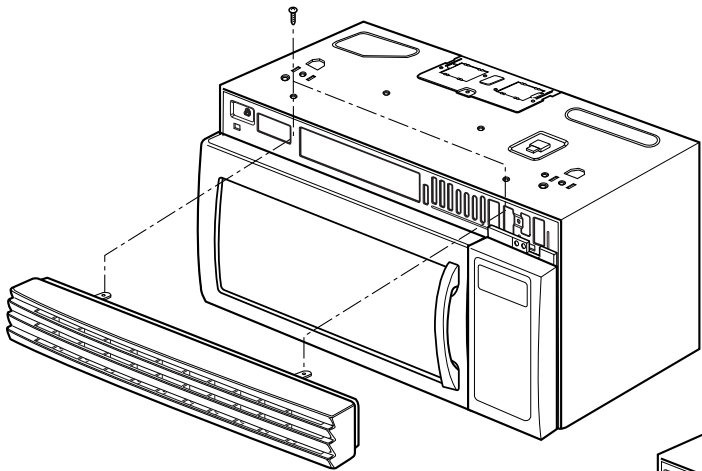

Figure 11
(Figures 11 Through 13b)
- (1) Remove the vent grille by loosening two screws. (Figure 11)
- (2) Remove the outside case. See page 7-6.
- (3) Remove four tap tite screws securing the magnetron to the wave guide.
- (4) Disconnect the leadwire.
- (5) Remove the magnetron VERY CAREFULLY.